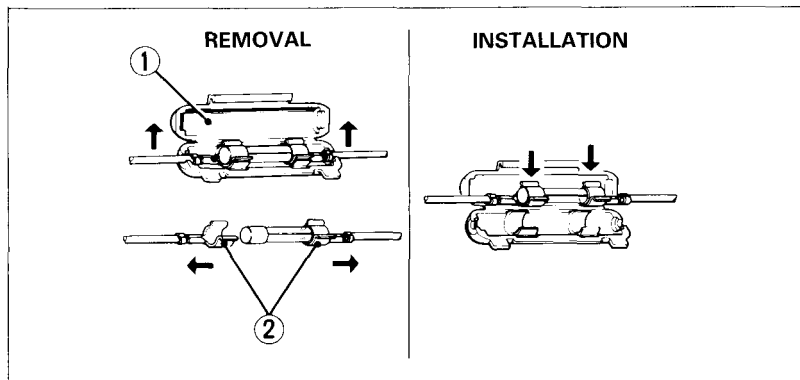

Fig. 4-22
2. Open the fuse holder (Fig. 4-22) and lift out the fuse with the clips (2).